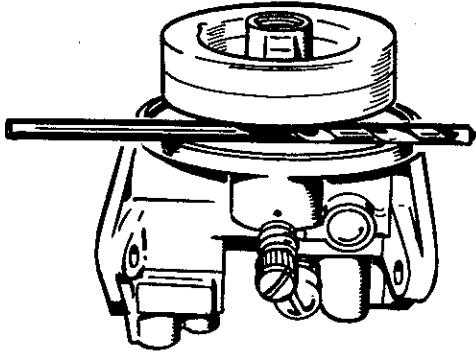

FIGURE 7-25. CARBURETOR FLOAT ADJUSTMENT
1. Invert float and casting (Figure 7-25).